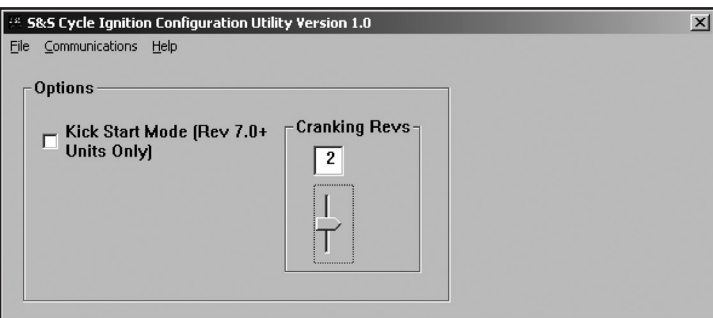

Figure 5
4. The main screen appears as shown in the **Figure 5**.